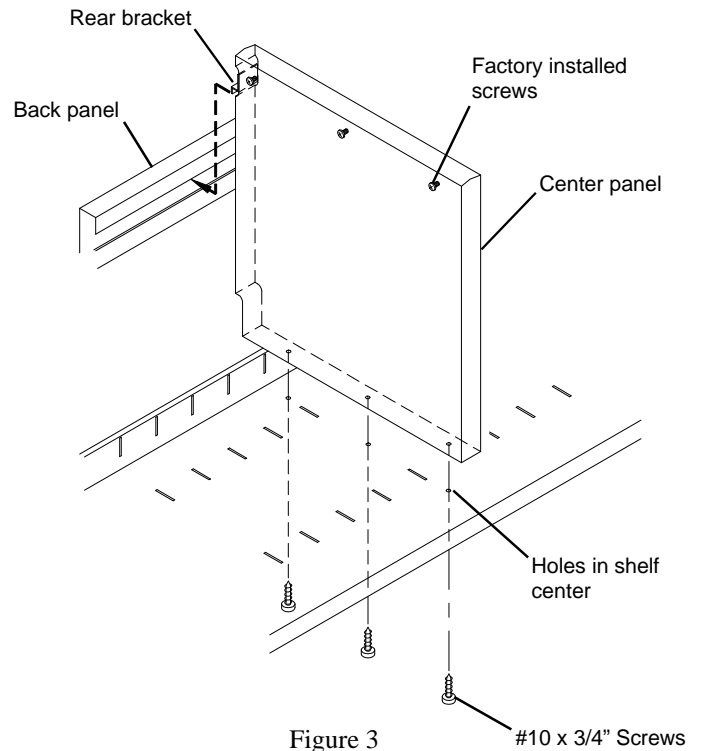

Figure 3
1. Locate the **Center Panel** over the center of the shelf and hook the **Rear Bracket** into the top slot on the **Back Panel** as shown in **Figure 3**.
2. Position the **Center Panel** over the three 1/4" diameter holes located in the center of the Shelf and fasten it to the Shelf with the three #10 x 3/4" screws provided. **Do not tighten them at this time.** See **Figure 3**.
2. Position the **Top Panel** above the screws. The **Receding Door** mounting holes must face forward. Lower the **Top Panel** onto the screws so that the six screws engage their corresponding slots in the **Top Panel**. See **Figure 3**.